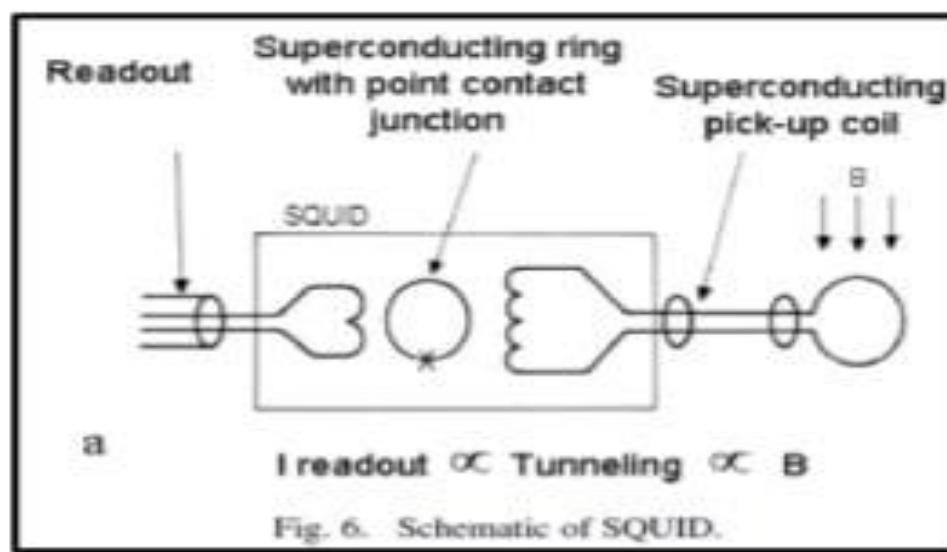

Fig. 6. Schematic of SQUID.
- The **most** sensitive of all instruments for measuring a magnetic field at low frequencies ( 1 Hz) is the superconducting quantum interference device (SQUID) illustrated in Fig. 6.